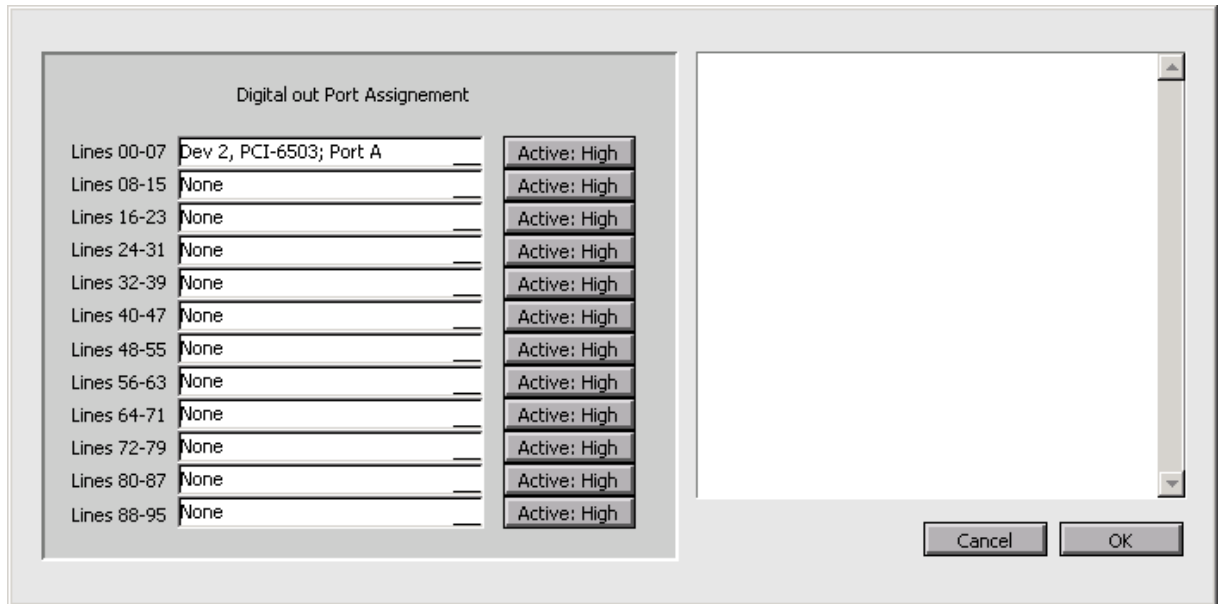

Figure 1: Configuration of digital ports in CellWorks
- Usually the VD-24-01 is used with the PCI-6503 configured for port A (in CellWorks: Hardware configuration – Digital lines out – Digital out Port Assignment - Lines 00-07 assigned to PCI-6503, port A; see Figure 1).